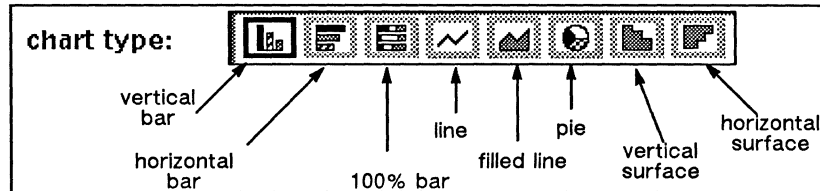

Figure 28-24. Chart types
**Chart type.** The icons represent the types of charts (Figure 28-24). It is only useful to change chart type if your data are appropriate for the new chart type. In other instances, it is better to choose a chart of the right type from the charts in the *Graphics* cabinet. Surface charts are in the *Bars* document. (For more information about scatter charts, see the *Line Chart Options* section.)